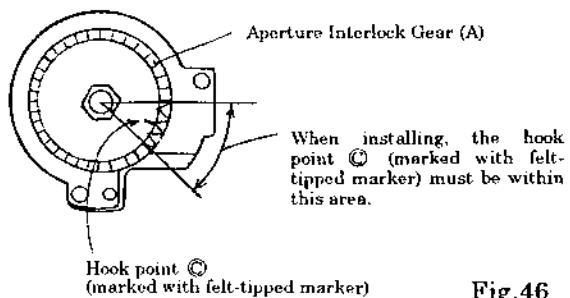

Fig.46
- When installing the Aperture Code Ass'y on the Mount Base, the hook point ⑨ (marked with a felt-tipped marker) of the Spiral Spring to the Aperture Interlock Gear (A) of the Aperture Code Ass'y must be positioned in the area as shown in Fig. 46.